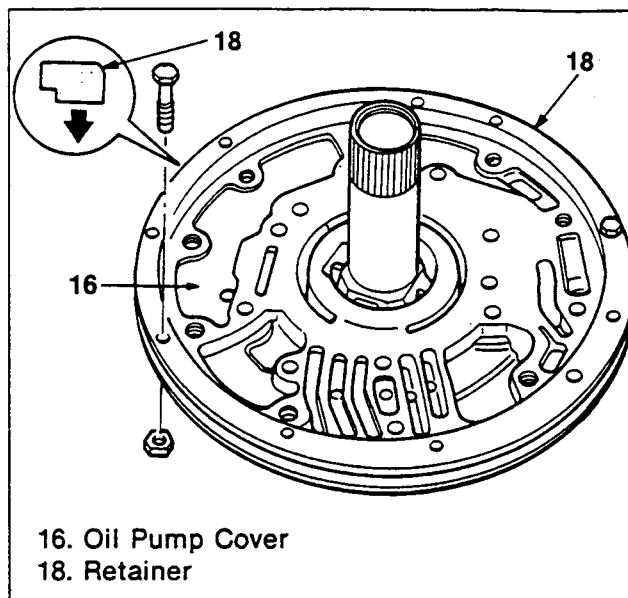

Figure 75. Oil Pump Cover Installation (2)
- Be careful to place the retainer for correct direction (figure 75).